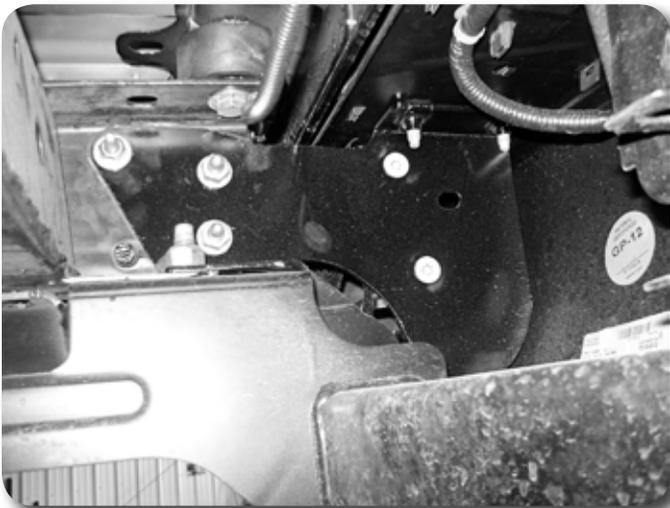

Figure 23
13. Install the rear bumper with the new mounts in the vehicle **Figure 23**. Be sure the new brackets are inside the frame rails and the spare tire winch tubes align **Figure 24**. Fasten the bumper to the original frame mount holes with the factory bolt tab and nuts. Fasten the bracket through the remaining front-upper hole with the original 10mm bolt and provided 10mm nut and washer. Leave hardware loose.